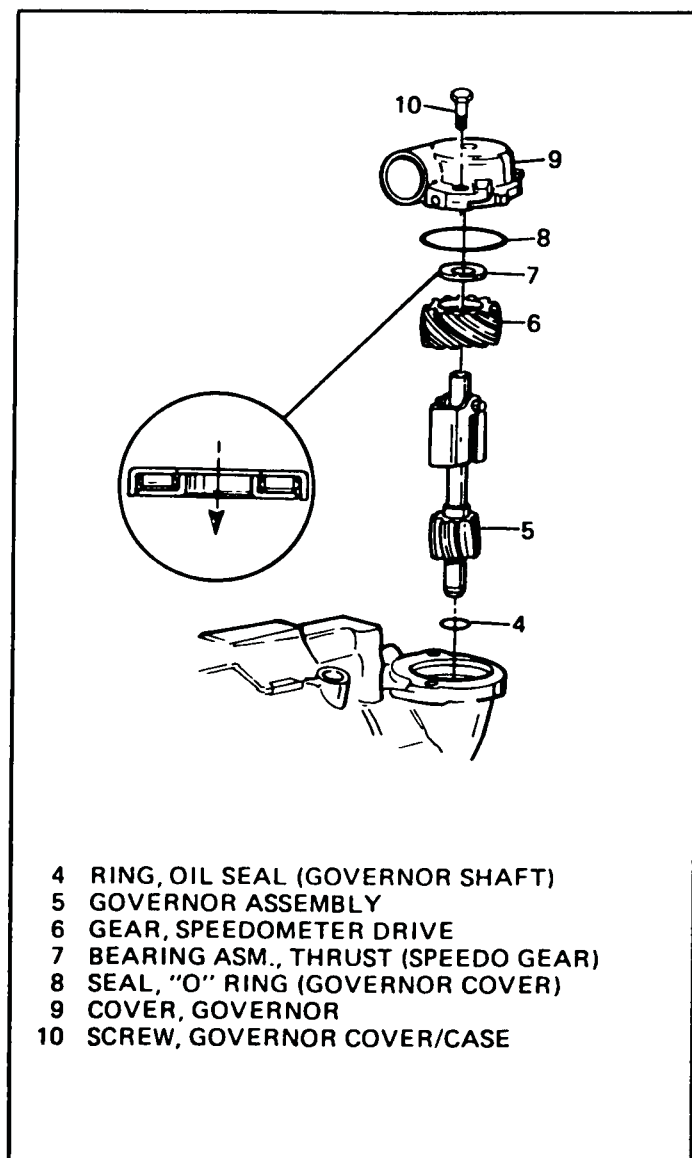

Figure 58
- 1) Governor Cover - Redesigned and speed sensor added to governor cover (See Figures 58 and 59).